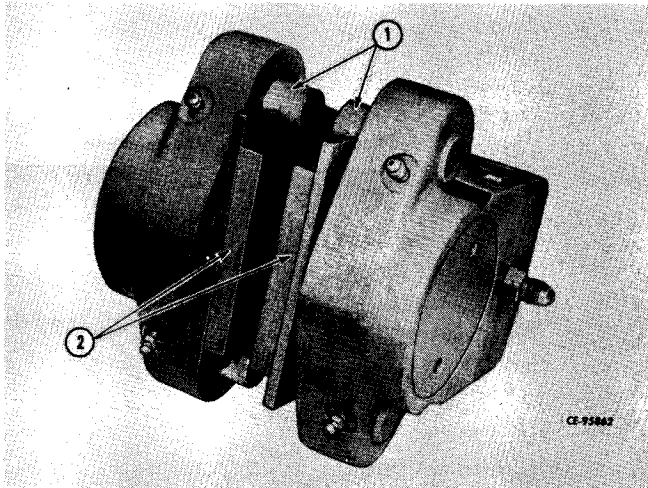

Figure 13-10
Remove lining carriers (2, Fig. 13-10) from guide pins (1).
Install new lining carriers (2, Fig. 13-10) on guide pins (1).